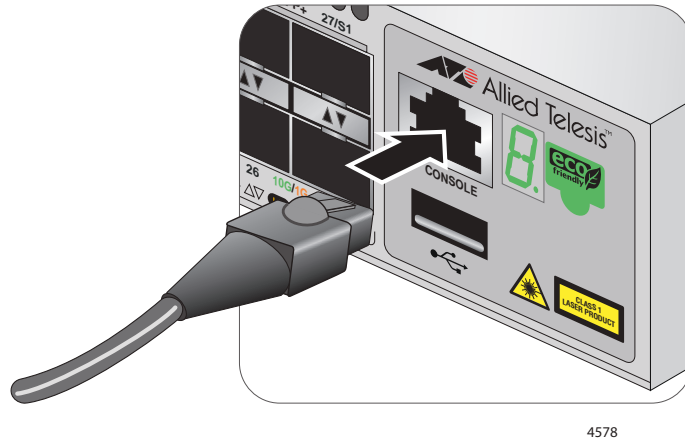

Figure 44. Connecting the Management Cable to the Console Port
1. Connect the RJ-45 connector of the management cable to the console port on the front panel of the switch, as shown in Figure 44.